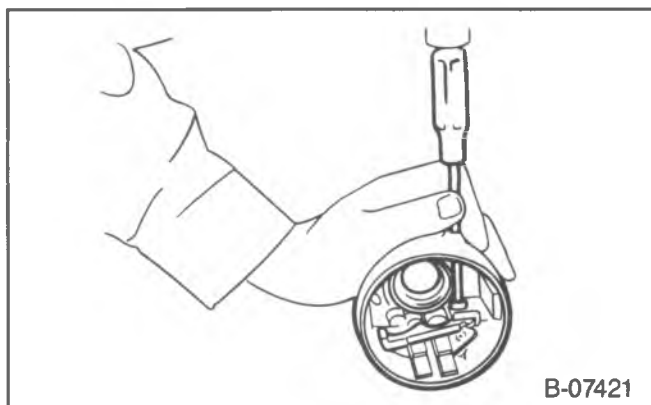

Figure 47—Release Lever Pivot Pin Removal
11. Shoe release pivot pin (228). Use J-22635 or a suitable punch (figure 47).
12. Spring (227) and lever (229).
13. Shoe kit assembly (225).
15. Screws (231).
16. Support (233).